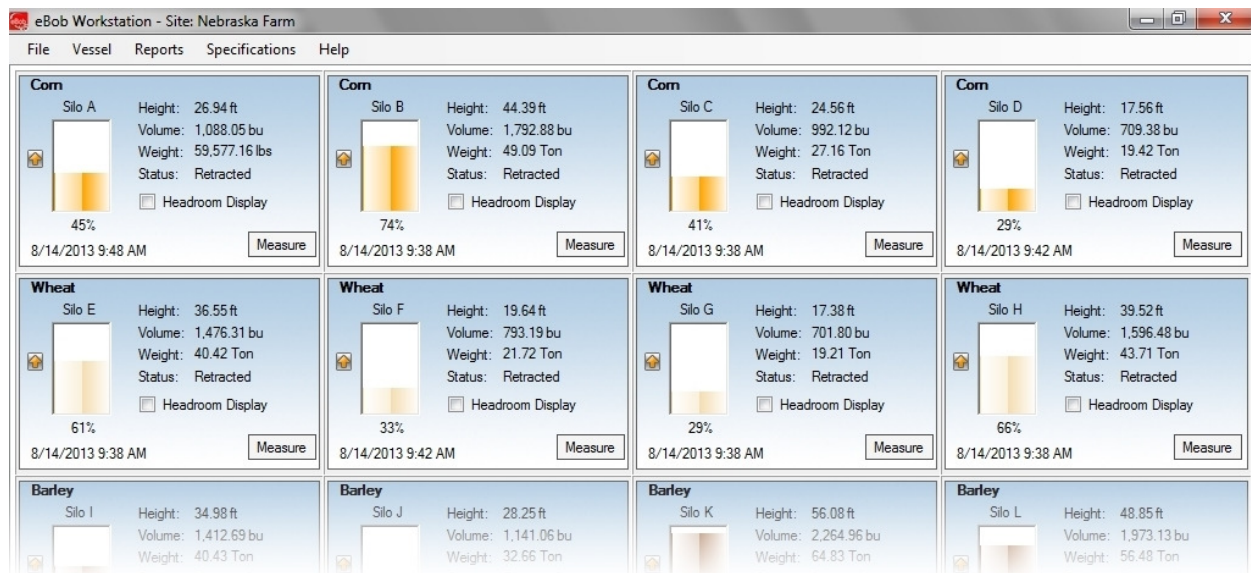

Figure 1
The main screen of eBob Workstation shown in Figure 1 provides a table of vessels, each represented by a panel, providing visual and detailed level indication. The main screen can display 16 vessels (panels) at a time with tabs along the bottom for quickly switching to view more vessels. There is also a menu system along the top that provides access to configuration screens for vessel setup, site setup, scheduling, alarms, email alerts and more.
1. Workstation – This provides the user interface for eBob, it is what you will use to view vessels,  product levels, configure the system and create reports. See Figure 1. It runs like most Windows programs, you double-click an icon on your desktop or click an icon in your Windows start menu and it opens a window for you to interface with, using a mouse and keyboard. There can be one or more Workstations in an eBob system. Refer to section **5.0 The Workstation** for details.